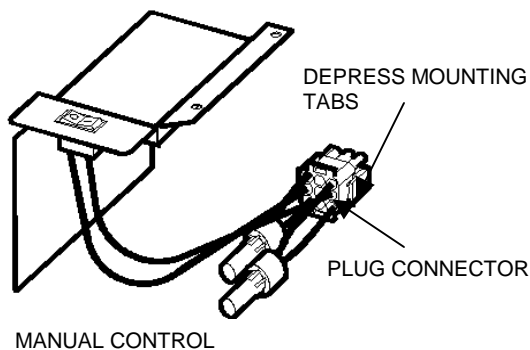

FIGURE 6
4. Locate and remove the two screws on the manual control bracket. Remove the bracket. (FIGURE 6)
5. Locate and depress the mounting tabs on the plug connector and remove the manual control bracket. (FIGURE 6)